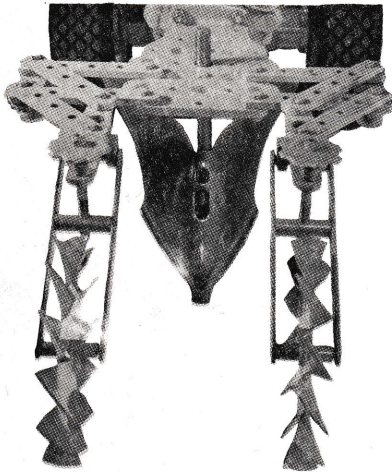

Figure 3
**Sweep and Hoe Set-Up** uses a Sweep in the center and a right and left Hoe on the sides. The Sweep comes in 8, 10, 12, and 16-inch sizes. The Sweep clears the center of weeds and trash, while the Hoes eliminate the majority of hand work close to the plants. (Figure 3).